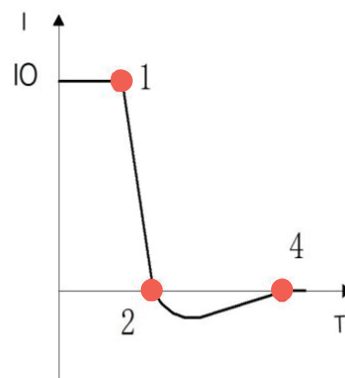

Figure 2
- The material's ultra-high magnetic permeability boosts inductance, effectively suppressing the diode's spike current (see Figure 2).